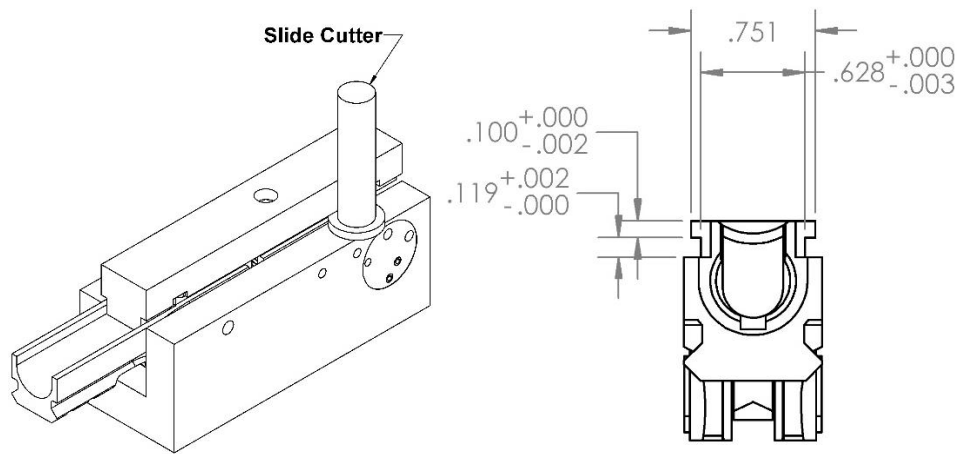

Figure 3. Slide Rail cut dimensions.
- 4 Next, place the Radius Jig assembly into your mill with the drill plate and Slot facing to the side. Use ARES ARMOR special slide cutter (Figure 5). See Figure 3 for the dimensions.